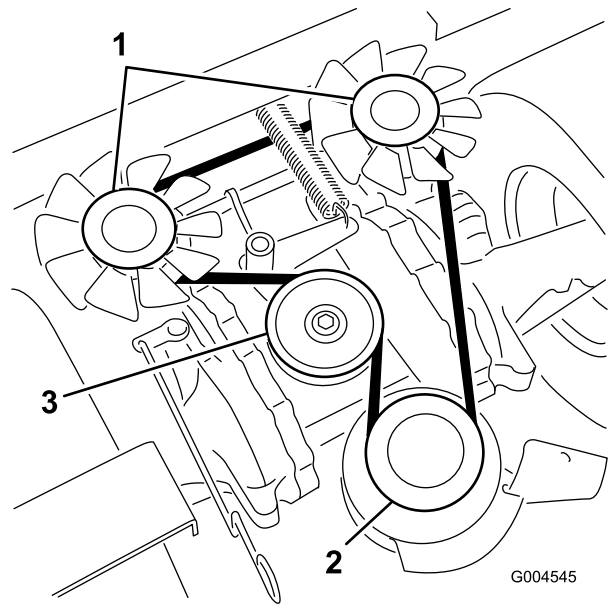

Figure 45
2. Remove the bolt from the clutch stop and unplug the clutch electrical wire (Figure 45).
3. Pull on the idler pulley to relieve the belt tension on the idler pulley (Figure 45).
4. Remove the pump drive belt from the engine and the hydraulic pump pulleys (Figure 45).
5. Install the new belt around the engine and the hydraulic pump pulleys (Figure 45).
7. Release the pressure on the spring loaded idler (Figure 45).